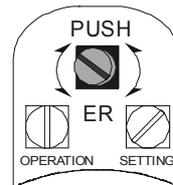

Fig. 9.4.2
- **ENGAGE PUSHER SHAFT:** Turn back selector 'PUSHER'. Check that go back to its initial position (Figure 9.4.2). **This point is fundamental for the correct setting of the limit switches: Ensure that PUSHER shaft is correctly engaged.**
- ENGAGE PUSHER SHAFT: Turn back selector 'PUSHER'. Check that go back to its initial position (Figure 9.4.2). **This point is fundamental for the correct setting of the limit switches: Ensure that PUSHER shaft is correctly engaged.**